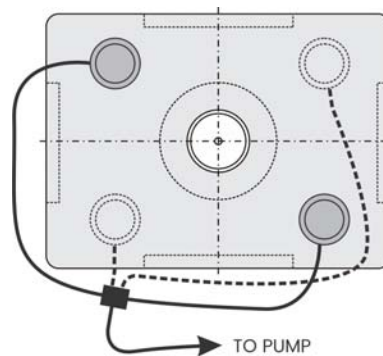

Figure 4
- Two or four cylinders are required per isolator. The cylinders within the isolator should be hydraulically connected to one another to equalize the hydraulic pressure within the isolator for uniform lifting and loading of the isolator's elastomer cushion. See Figure 4.